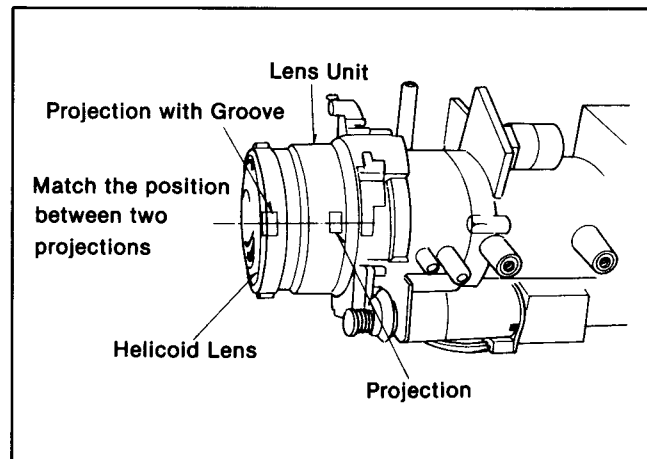

Fig. M4
- a. Install the helicoid lens so that the projection with groove on helicoid lens comes to projection on lens unit as shown in Fig.M4.